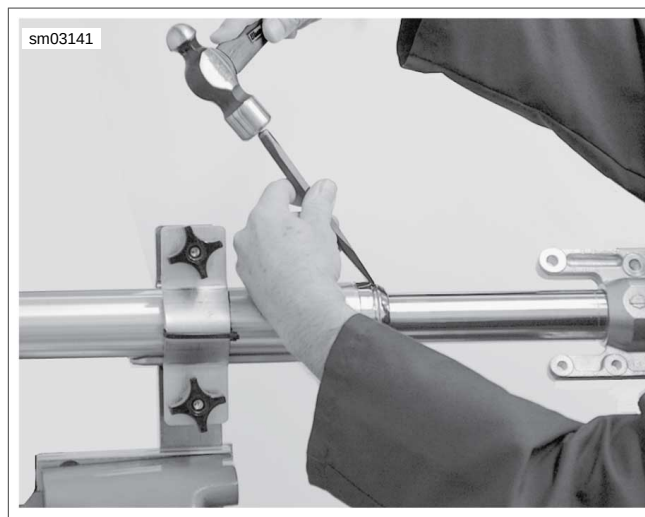

Figure 2-174. Remove Chrome Dust Cover
11. See Figure 2-174. Using a blunt soft object (such as a wood dowel or chisel with duct tape), gently tap chrome dust cover away from seat, remove dust seal, lock ring, fork seal, spacer, and bushing from fork tube. Then, expand fork tube and slider against each other (in a slider-hammer effect) repeatedly to free fork slider from fork tube. Use caution not to damage components.